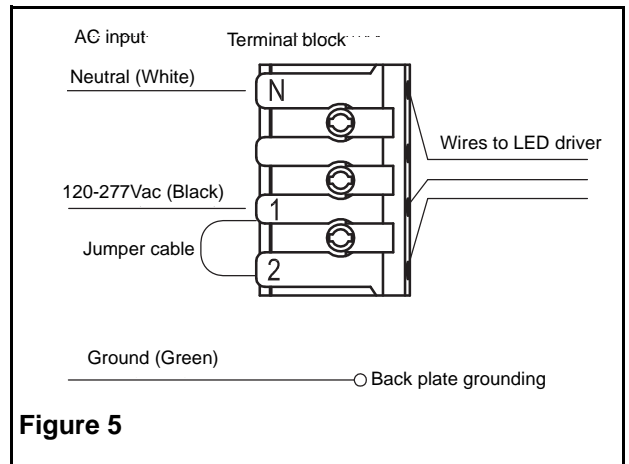

Figure 5
5. Make the proper connections (see figure 5 & 6): This unit can accept voltages of 120 - 277Vac. Connect the white wire (neutral) and the black wire (120-277Vac) to the building power supply.
5. Make the proper connections (see figures 5 & 6): This unit can accept voltages of 120 - 277Vac. Connect the white wire (neutral) and the black wire (120-277Vac) to the building power supply.